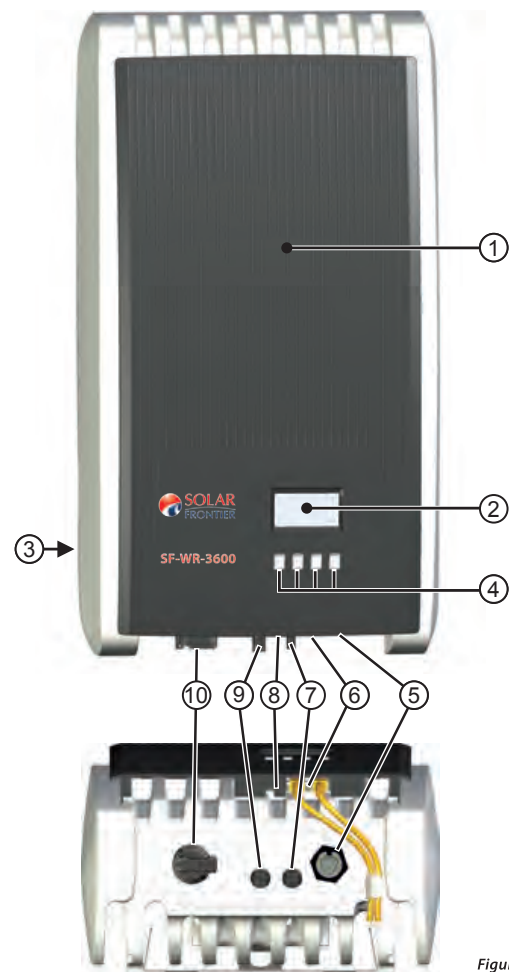

Figure 48
The operating buttons (④ in Figure 48 und 49) have the following functions:
For information shown in the display (② in Figure 48 und 49) the following generally applies: